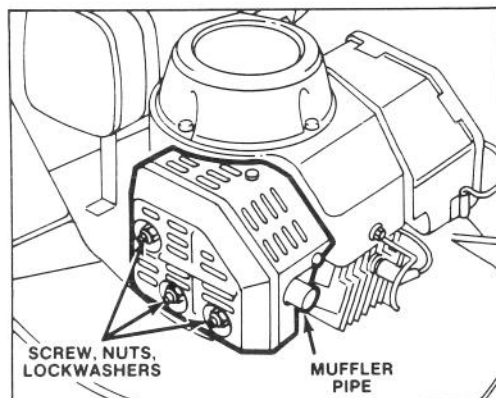

Figure 14
1. Use hard wood scraper and remove carbon from end of muffler pipe (Fig. 14).
2. Remove screw, two nuts and lockwashers (Fig. 14). Slide muffler off mounting pins.
5. Install muffler with screw, two nuts and lockwashers (Fig. 14). After cleaning exhaust port make sure muffler gasket is still usable.